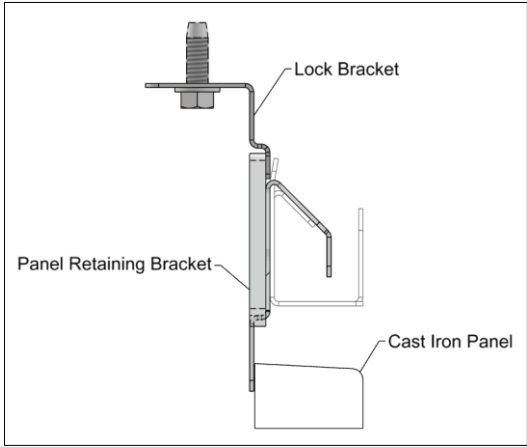

Figure 7-4: Lock Bracket for Cast Iron Panel
- j) Reinstall the Cast Iron Panels (X2) and the Lock Brackets (X2). Refer to Figure 7-4 to properly install the Lock Brackets.
- h) Reinstall the Lock Bracket to secure the Cast Iron Panel. Refer to Figure 7-4.